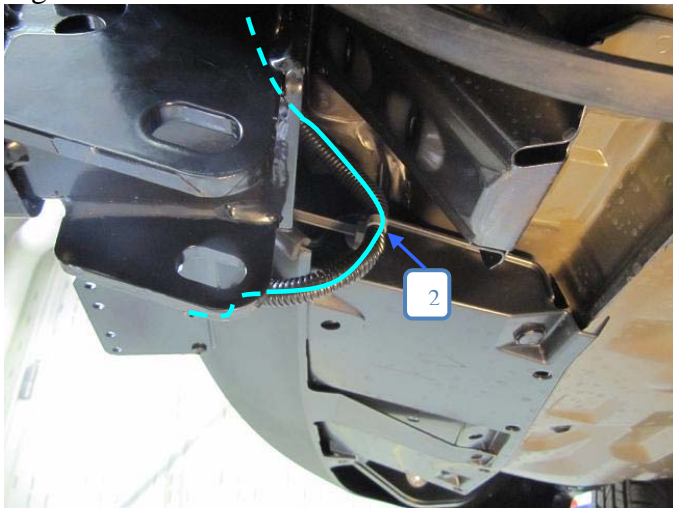

Figure 4-8
e) Insert trailer wire clip as shown in Figure 4-8.
PUSH MOUNT CLIP x 1  (Figure 4-8)